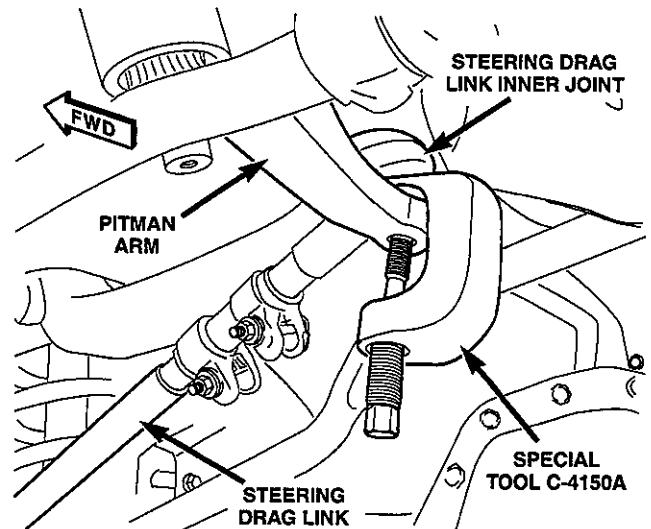

Figure 4 – Special Tool C-4150A
- c. Using special tool C-4150A, separate the steering drag link inner joint from the pitman arm (Figure 4).